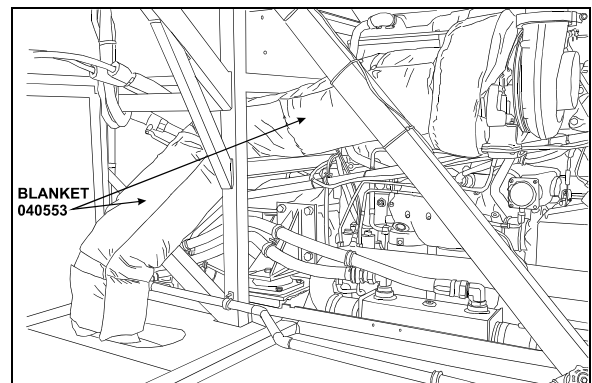

FIGURE 4: EXHAUST BLANKET INSTALLATION
| FIGURE 4: EXHAUST BLANKET INSTALLATION | 4 |
2. Locate splash guard panel located at rear of vehicle (behind L.H. side tag axle wheel), then remove, cover bellows and exhaust pipe with 2-piece blanket #040553 (Fig. 4). Use velcro to secure blanket in place.
2. Locate splash guard panel located at rear of vehicle (behind L.H. side tag axle wheel), then remove, cover bellows and exhaust pipe with 2-piece blanket #040565. Refer to figure 4 showing installation on W5 shells. Use velcro to secure blanket in place.